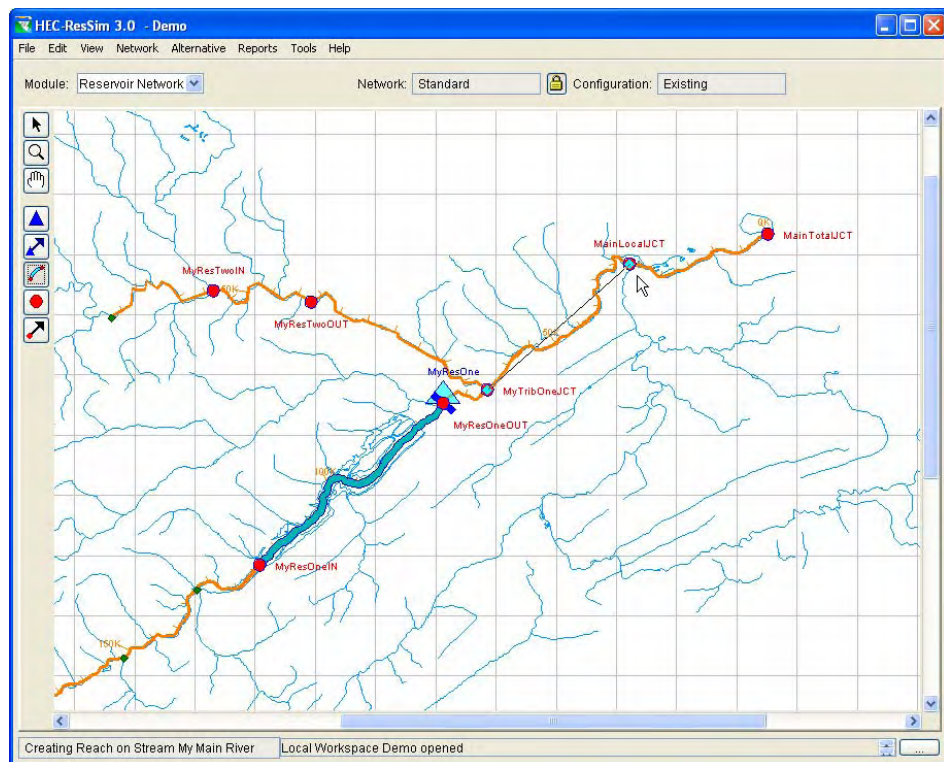

Figure 16 – Drawing Routing Reaches
- Draw Routing Reaches.** Select the routing reach tool . Hold down the **CTRL** key and click anywhere on the stream to place the upstream end of the reach. Release the **CTRL** key and move the mouse along the stream and click again at a lower station on the stream to place the downstream end, as shown in Figure 16. Routing reaches must be connected to an existing junction. If you start or end a reach where there is no junction one will be created, and you will be prompted to first name the new junction and then name the new reach. Note: tributaries cannot connect to the middle of a reach; they must connect to a junction.